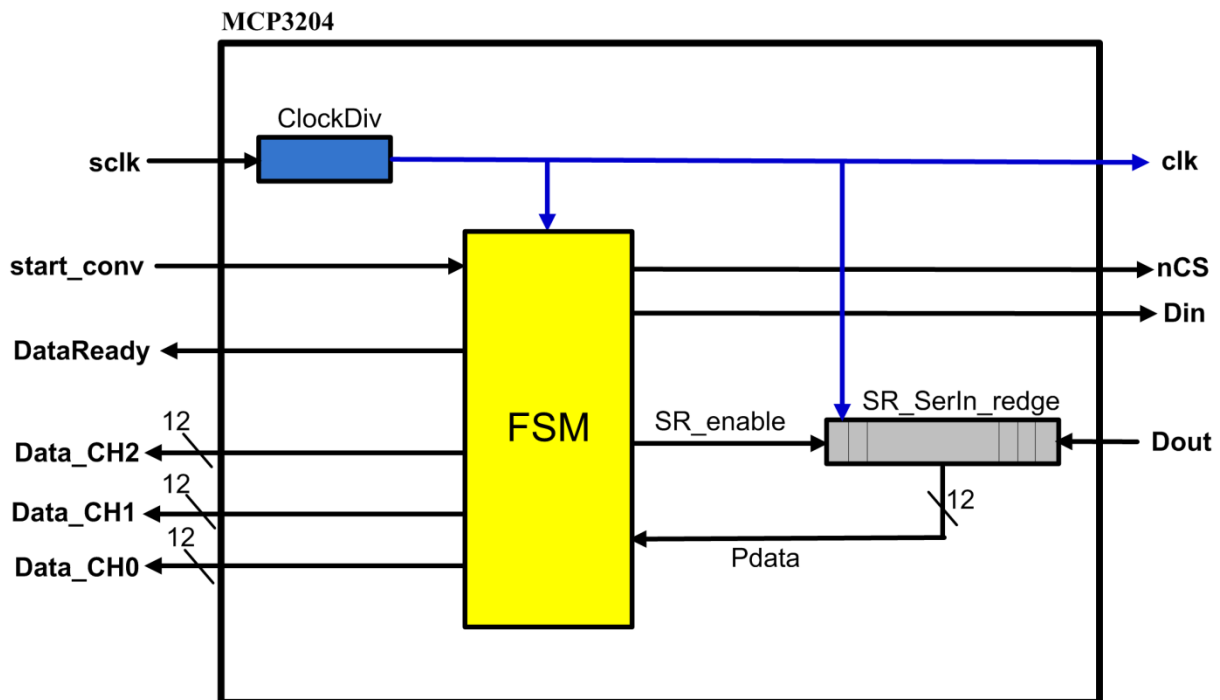

Figure 3
A block diagram of the ADC controller implementation is shown in Figure 3. The data from the ADC, which has been read into the serial-in-parallel-out shift register called **SR_SerIn_redge** (see Figure 3) can be routed to the parallel data outputs of the controller in the following way (in a state in the FSM):
6. Create a VHDL file called **MCP3204.vhd** and write the code for the ADC controller, based on your ASM chart and the block diagram in Figure 3. Include the serial shift register **SR_SerIn_redge.vhd** and the clock divider **ClockDiv.vhd** as components in your design.
- ASM chart for the state machine (the yellow component in the block diagram of Figure 3)